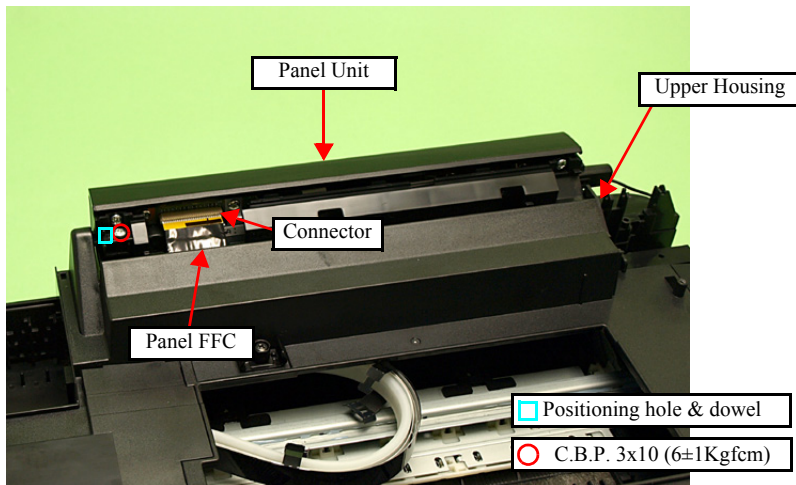

Figure 4-40. Removing the Panel Unit (2)
8. Disconnect the Panel FFC from the connector of the Panel Unit. (See Fig. 4-40.)
- Align and insert the dowel of the Right Hinge to the positioning hole of the Panel Unit. (See Fig. 4-40.)